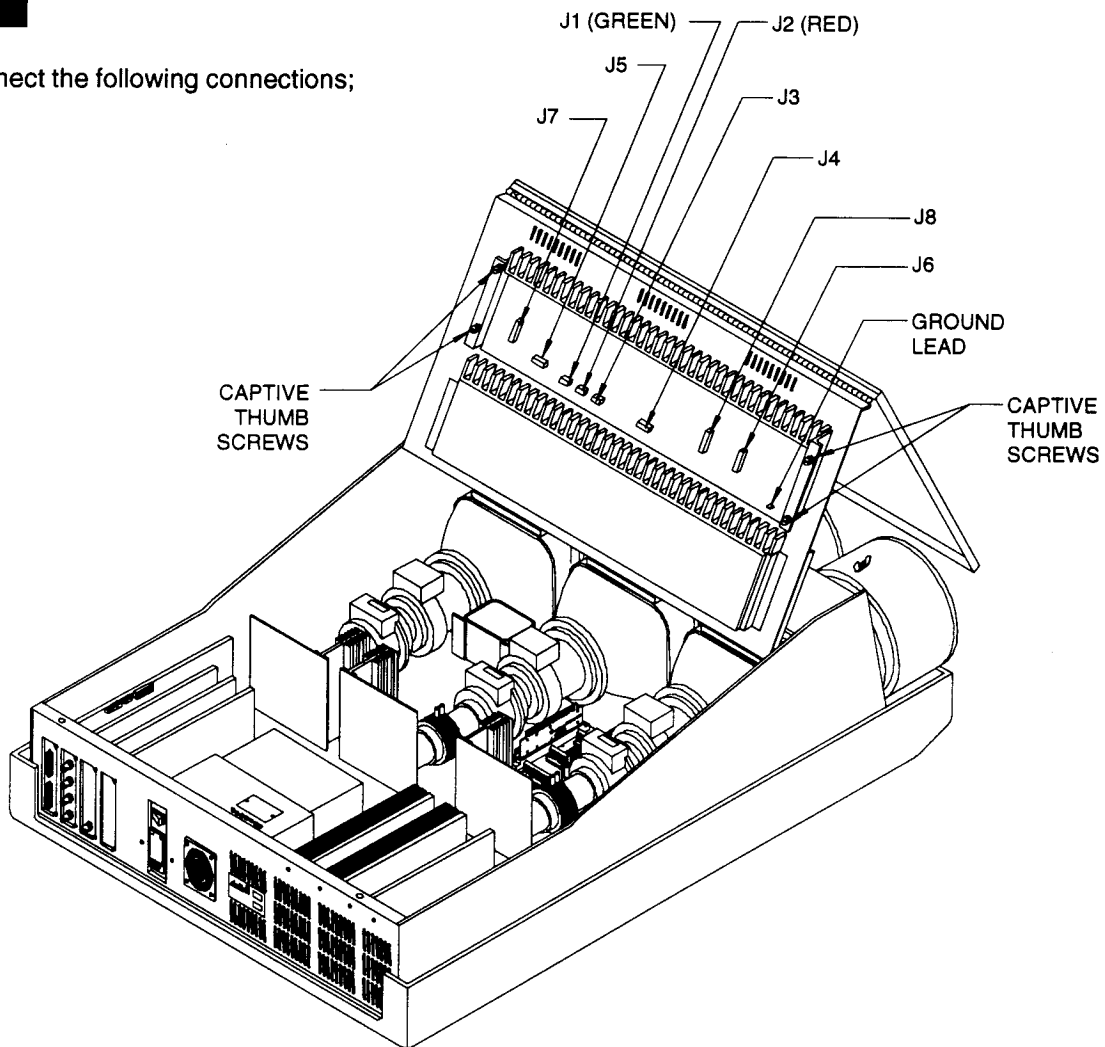

FIGURE. 9-23. 3600 Mag Focus board replacement.
- STEP 3. On the component side of the Focus Modulator board, disconnect the following; J1 through J8 and the ground lead. See Figure 9-23 (3600) and/or 9-24 (4600).
- STEP 4. Loosen the four (4) captive thumb screws located on both sides of this assembly.